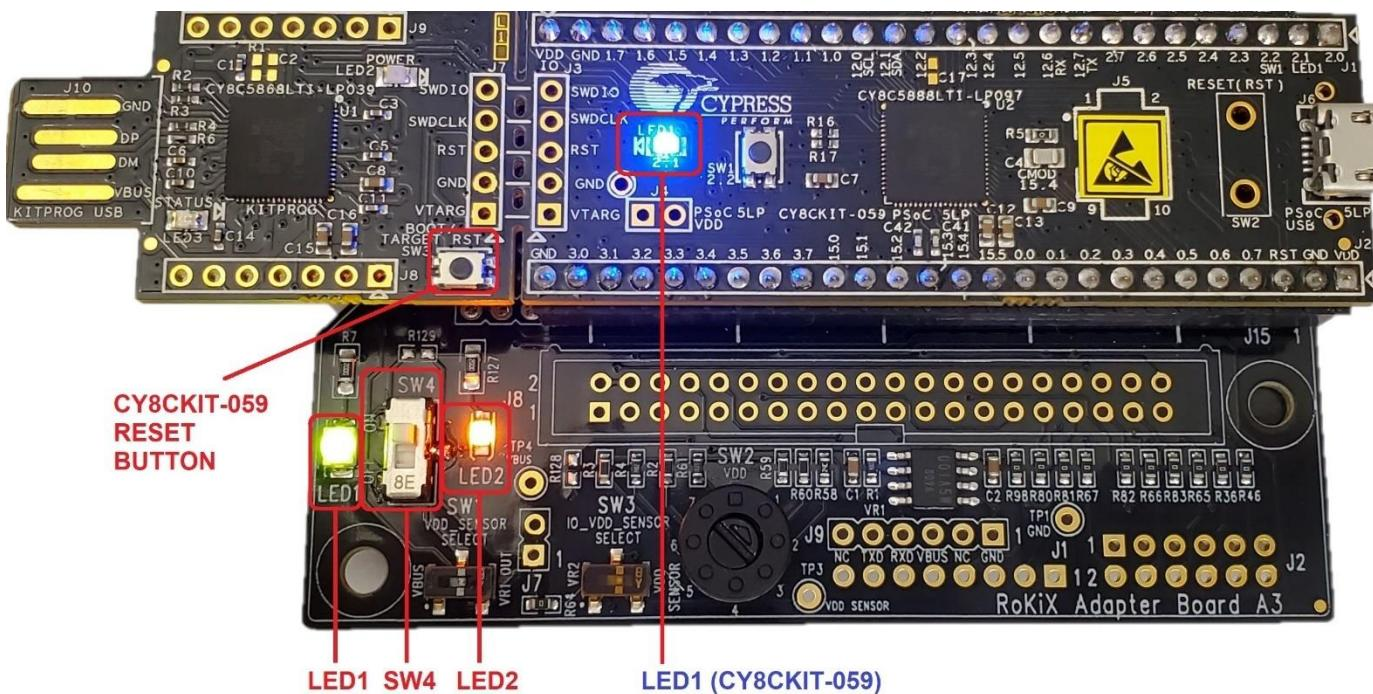

Figure 75. *RoKiX Development Kit* status: LED1, SW4, LED2, LED1 (CY8CKIT-059) must be ON
1. The **blue** LED1 (CY8CKIT-059) should be constantly ON and not blinking (Figure 75)
2. The **green** LED1 (Figure 75).
1. The **orange** LED2 should be ON (Figure 75). If **orange** LED2 is OFF, check the following:
- Check if the SW4 is in the ON position (i.e. moved up as seen from above) (Figure 75).
- Press CY8CKIT-059 Reset Button (Figure 75). Wait few seconds. If status changes to “Connected”, press “Streaming” button.